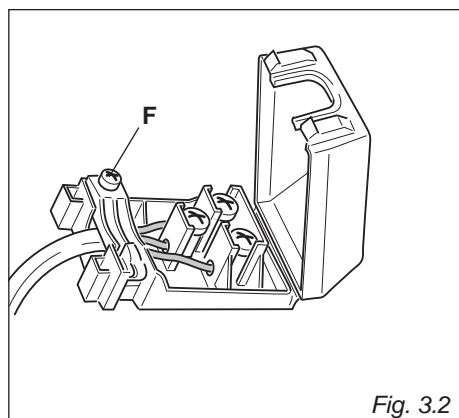

Fig. 3.2
- Open the cable gland by unscrewing screw "F" (fig. 3.2), unscrew the terminal screws and remove the cable.